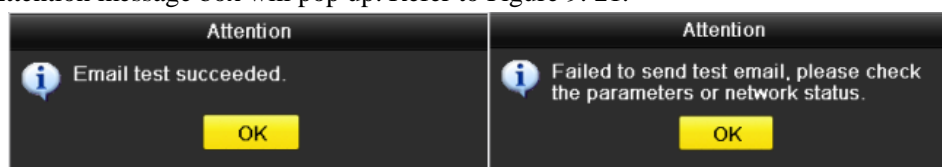

Figure 9. 21 Email Testing Attention
9. You can click **Test** to test whether your Email settings work. The corresponding Attention message box will pop up. Refer to Figure 9. 21.